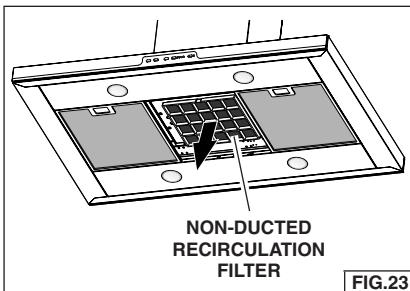

FIG.23
1. To remove the CHARCOAL filter, grip and push filter tab toward rear of hood. Pull the filter down to disengage the rear filter tabs. Fig. 23.